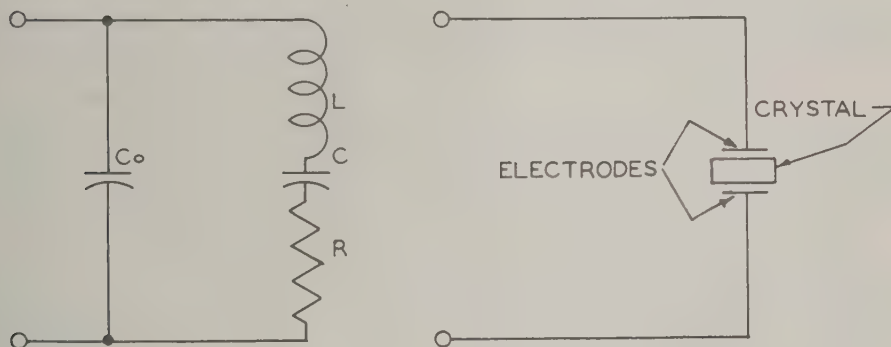

Figure 3. Equivalent Electrical Circuit of a Piezoelectric Crystal.
c. **PROPERTIES OF PIEZOELECTRIC RESONATOR.** - A good piezoelectric resonator possesses the following properties: a low-temperature coefficient of resonant frequency, a high piezoelectric activity (PI), and a frequency spectrum containing only one resonant frequency in the vicinity of the desired oscillation. Temperature can alter the frequency of mechanical resonance through its effects on the density, the linear dimensions, and the moduli of elasticity of the crystal. Since some of the elastic constants are positive and others are negative, the temperature coefficient of frequency may be either positive, negative, or zero, according to the mode of oscillation, the orientation of the crystal plate, and the shape of the plate. The electrical circuit associated with a vibrating crystal is shown in Figure 3. The capacity C_0 represents the electrostatic capacity between the crystal electrodes when the crystal is in place but not vibrating; the series combination of L , C , and R represents the equivalent mass, compliance, and frictional loss of the vibrating crystal, respectively.
a. **STATIC CAPACITANCE, C_0 .** - The value of the static capacitance of the crystal unit, C_0 , may be measured by any conventional capacitance measuring unit. If this measurement is made with the use of a Q meter or an rf bridge, be careful to select a frequency of operation somewhat lower than the crystal unit frequency. Figure 3 shows a diagram of the parameters of a piezoelectric crystal.